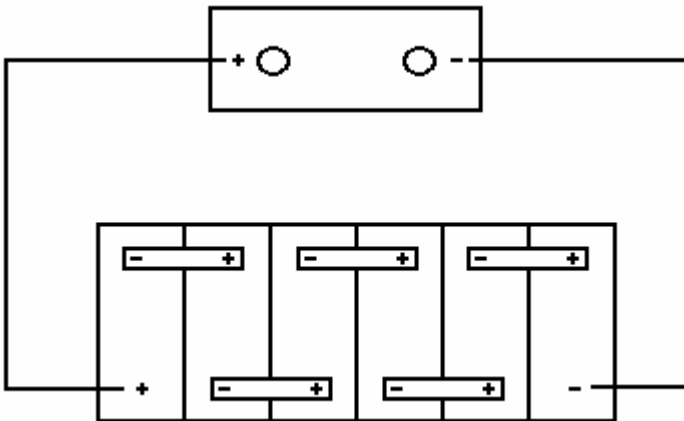

Figure 2: The assembling figure of the battery
4.1.4 Connecting the cells in series according to figure 2, and then cost the Vaseline oil around the nuts, posts and the connectors.
4.2.3 Connecting the cells in series according to figure 2, and then cost the Vaseline oil around the nuts, the posts and the connectors.